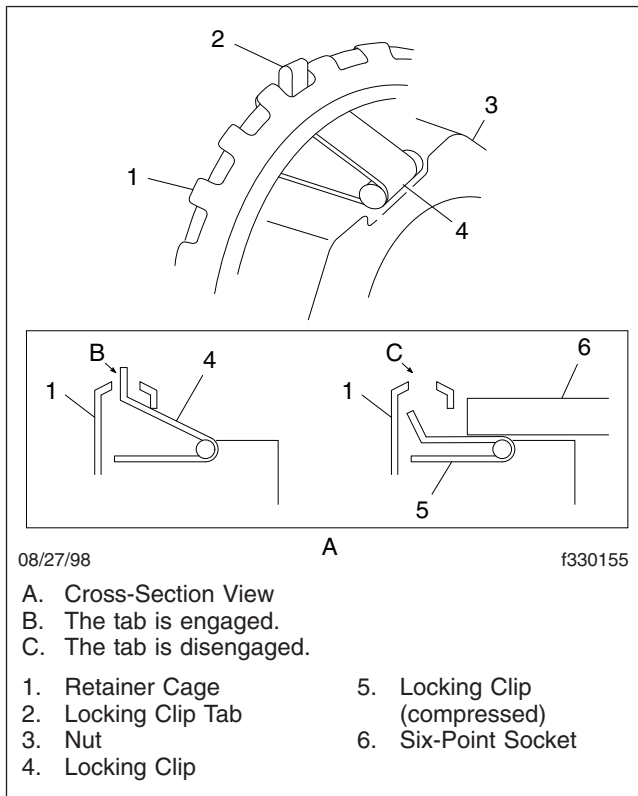

Fig. 2, Axilok Nut, Checking the Position of the Locking Clip
4. Ensure that both locking clips are present and engaged in the retainer cage. See Fig. 2. If the locking clips are not engaged, the nut is not locked in position and can rotate freely.
- 2.5 Remove the wrench from the nut, and verify whether both locking clips are present and engaged in the retainer cage. See Fig. 2. If the locking clips are not engaged, advance the Axilok until they are.